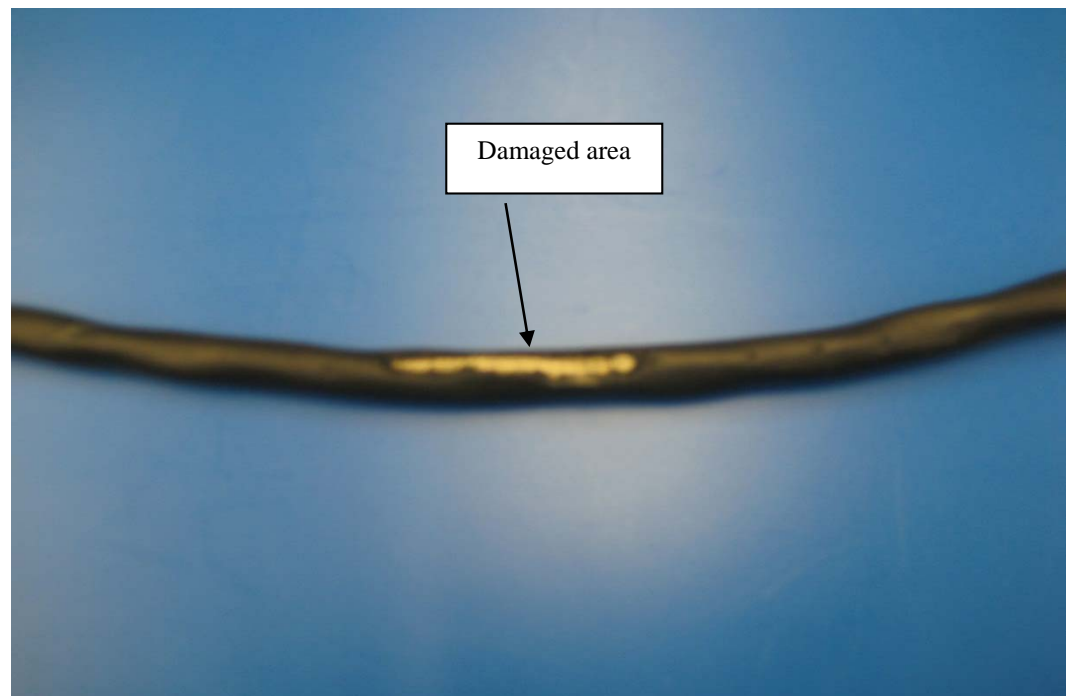

Figure 5-1
- The repair area will depend on the length of the damaged area. The repair area will be 7 inches if the damaged area less than 1 inch long and 13 inches if the damaged area 1 inch to 6 inches long (Figure 5-1).